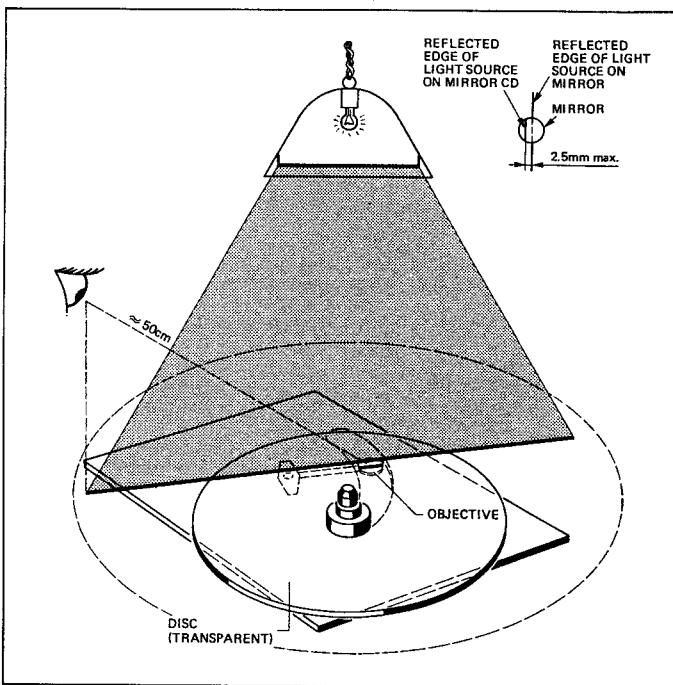
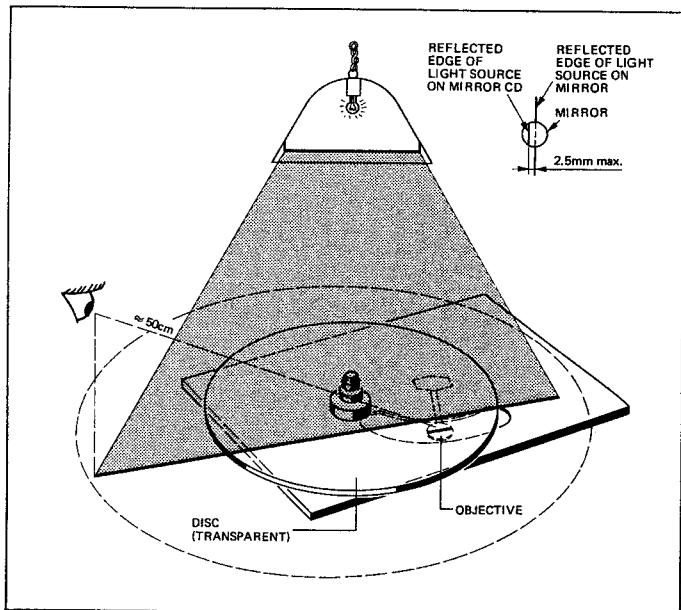

Fig. 4.13
Fig. 4.14
→ Fig. 4.13 / Fig. 4.14
- When observing the two shadow lines on the glass CD and on the mirror (Fig. 4.13), the lateral offset should not exceed 2.5 mm.
- Position the play mechanism in such a way that the shadow line runs perpendicular to the pickup arm but runs through the center of the mirror on the optical laser system (Fig. 4.14).